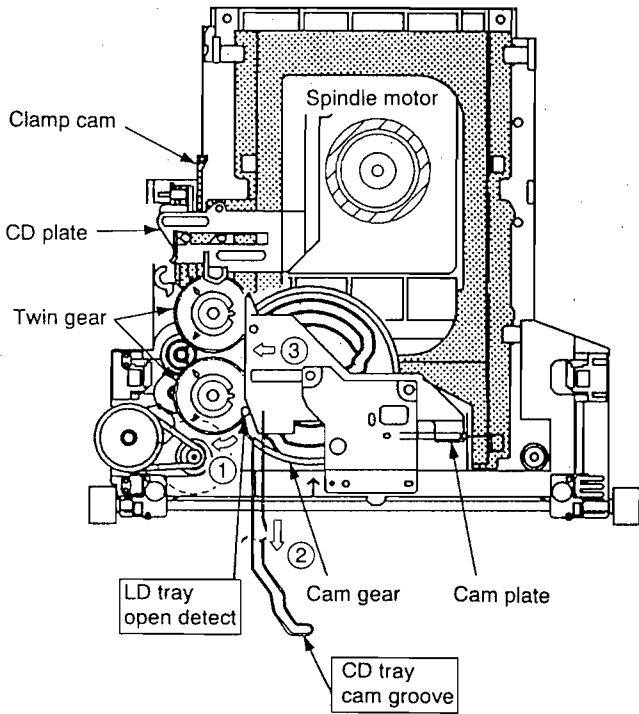
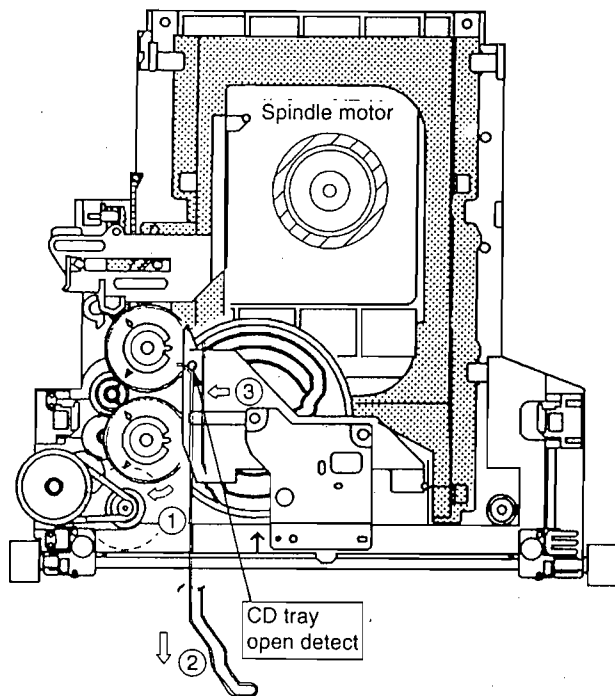
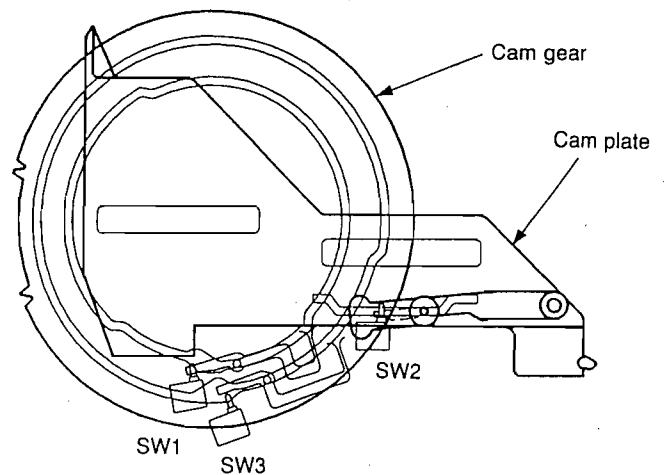

Fig. 2-6 Operation of LD tray open
Fig. 2-7 Operation of CD tray open
Fig. 2-8 Detection of Mechanism position
Position detection when the tray is opened is shown in Fig. 2-6 and Fig. 2-7. The Cam plate upper boss is engaged with the cam part of the CD tray when the LD tray is activated for opening. As the LD tray moves in direction (2) shown in Fig. 2-6, the boss arrives to the end of the cam and the cam is detached from the boss. At this time, the open detection boss existing in the LD tray is put against the left side of the Cam plate and advances further. When the LD tray open detecting boss is disengaged from the left side of the Cam plate, the Cam plate slides left by means of a spring in the direction as shown by (3). When the Cam plate slides left, SW2 shown in Fig. 2-8 is turned OFF and the opening of the tray is detected, which causes the loading motor to stop.
The detection of the CD tray opening is shown in Fig. 2-7. When the CD tray starts to move in the opening direction, the Cam plate upper boss slides on the cam part of the tray. When the tray is opened, the Cam plate moves left at the end of the cam of the CD tray. Then, as in the case of the LD tray, the tray opening is detected and the Loading motor stops.